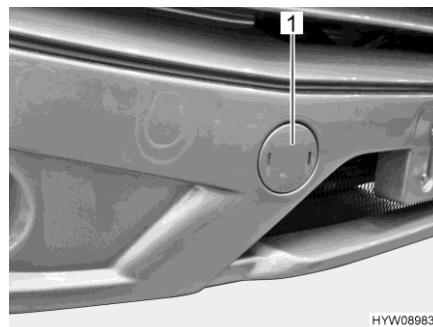

Fig. 43 Cover (mount of the towing eye)
- Lever up the cover (Fig. 43,1) using a screwdriver.